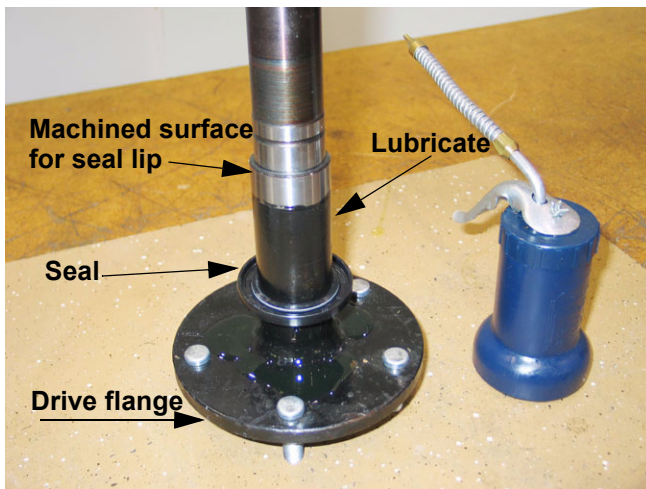

Figure 2.2
- 2.2. Lubricate the portion of the axle between the machined surface for the seal and the drive flange. Install the seal on the axle shaft. Carefully slip the seal over the shoulders on the machined surfaces. Use a seal protector sleeve if available. See Figure 2.2.